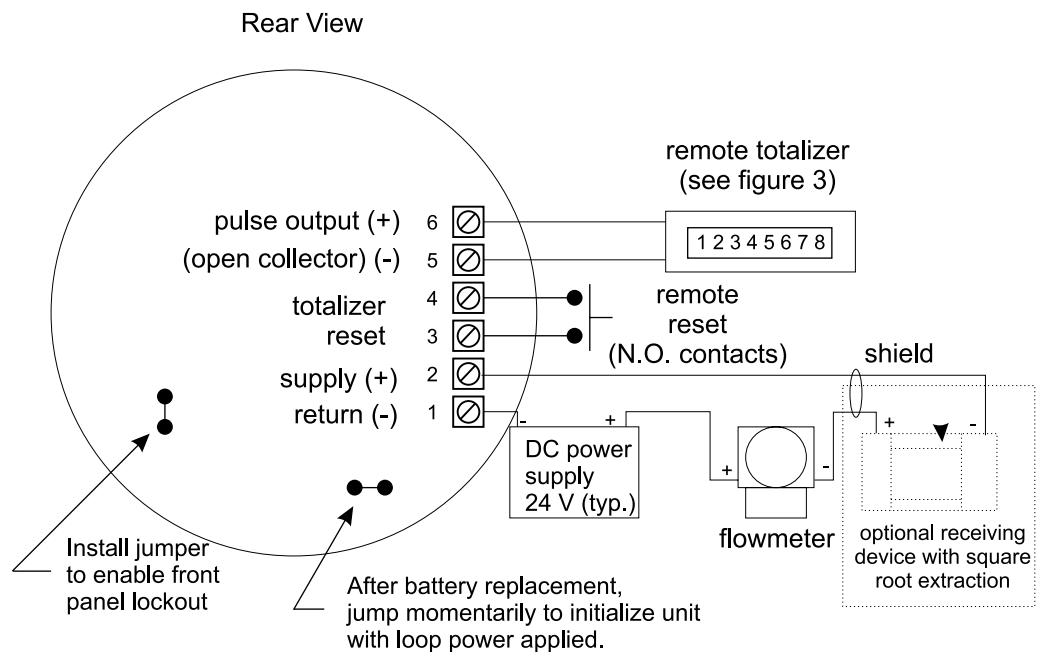

Figure 2
**NOTE:** A hardware jumper menu lockout is also available. (see Figure 2). The hardware jumper doe not inhibit contact closure reset at terminals 3 and 4.